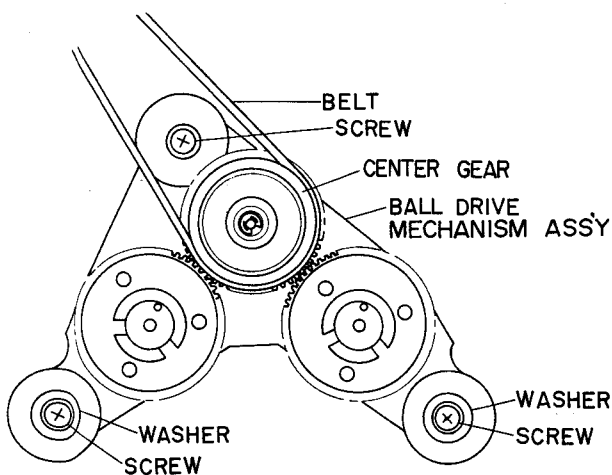

Fig. 6.4. Ball Drive Mechanism Ass'y Replacement
- (3) Referring to Fig. 6.4, remove the belt driven by the reel motor from the groove of the center gear. And remove three sets of screws and washers which fix the ball drive assembly to chassis. Detouch the brake assembly that holds the drum of ball drive assembly, and then remove the ball drive assembly.
- (4) Replace with a new ball drive assembly.
- (5) Mount the belt driven by the reel motor on the groove of center gear. Check to insure that the belt is clean and placed in a correct position.
- (6) Use care to prevent the shut-off belt from interfering with cassette holder assembly. Be sure that the belt is clean, and is placed in a correct position. Make sure not to stick grease on the counter belt. In case grease is stuck on the counter belt, clean it off with an alcohol-dipped cloth.
- (7) Without loading a cassette tape, check to insure that the reel hub on supply side and that on take-up side are stopped, respectively in F.F. mode and rewind mode (In case either one or both of them is not stationary, replacement of ball drive assembly will be necessary).
- (8) Loading the torque gauge in the cassette well assembly, check that F.F. and rewind torque are in a range of 50 to 55 g-cm. After mounting the flywheel assembly, capstan belt and flywheel holder, check to see that take-up torque is in a range of  $40 \pm 5$  g-cm. In case these values are not achieved, adjustment should be made following the "6.1.2. Adjustment."